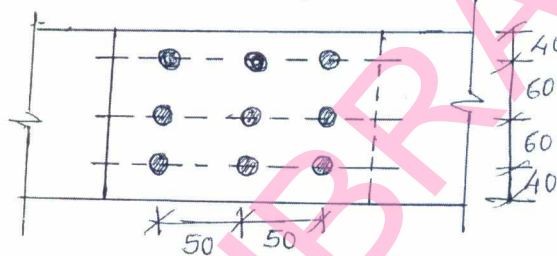

Fig. Q2 (b)
b. Determine the strength and efficiency of lap joint consist of 10 mm and 8 mm thick plates. Use M18 grade 5.6 black bolt and Fe440 grade plate. Edge distance = 40 mm, Pitch = 50 mm of Fig. Q2 (b). Assume fully threaded bolt. (14 Marks)